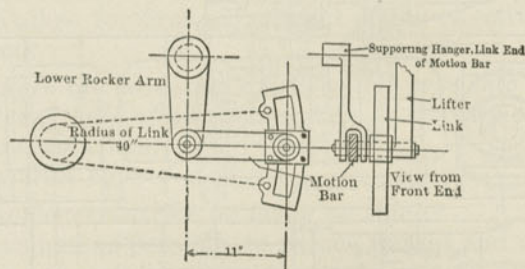
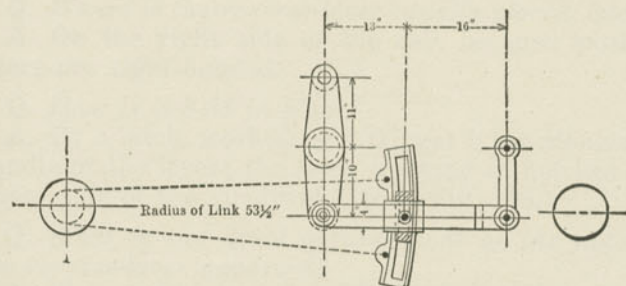

Fig. 193. Eccentrics and Rods.
Fig. 194. Eccentrics and Rods.
A. (1) By putting the link just back of the front axle, and using a curved transmission bar from the link to the rocker, just ahead of the leading axle—which gives two curved rods instead of one; (2) by using very short eccentric rods between main and forward axles; (3) as on the Southern Railway and the Plant System, by a straight direct transmission bar leading back to the rocker (Fig. 193); (4) as on some of the Brooks consolidateds for the Long Island and the Lake Shore roads (Fig. 194).